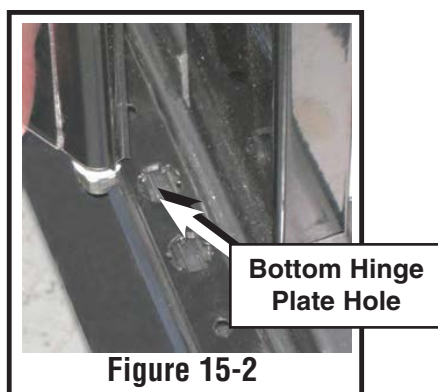

Figure 15-2
A. Insert Bottom of Door into hinge Plate as shown in Figure 15-2.